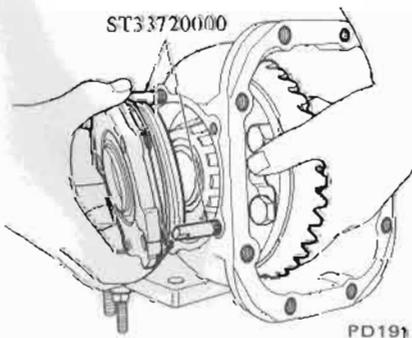
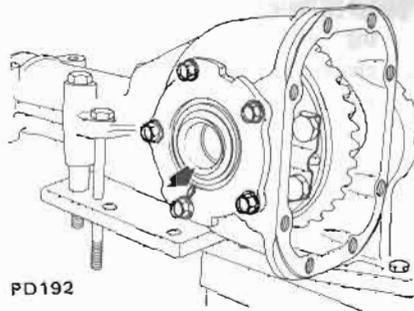

Fig. PD-25 Installing side retainer
Fig. PD-26 The arrow mark on retainer
3. Fit given shims and O-rings in both side retainers, and install retainers in carrier using Gear Carrier Side Retainer Guide ST33720000 (See Figure PD-25), and the arrow mark on retainer positioned as shown in Figure PD-26.